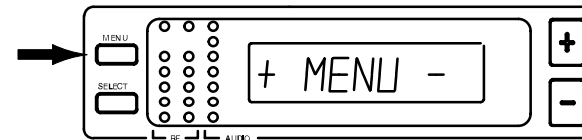

FIGURE 25
- Press the MENU button. The + MENU - display will appear, as shown in Figure 25.